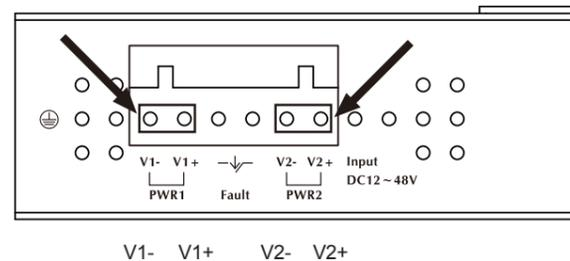

Figure 1 PWR1 & PWR2 of Industrial Managed Media Converter.
1. Insert positive / negative DC power wires into the contacts 1 and 2 for POWER 1, or 5 and 6 for POWER 2. Figure 1 shows PWR1 and PWR2 of the Industrial Managed Media Converter.
After entering the password (default user name and password is "admin") in login screen (Figure 1 appears). The Web main screen appears as Figure 4.